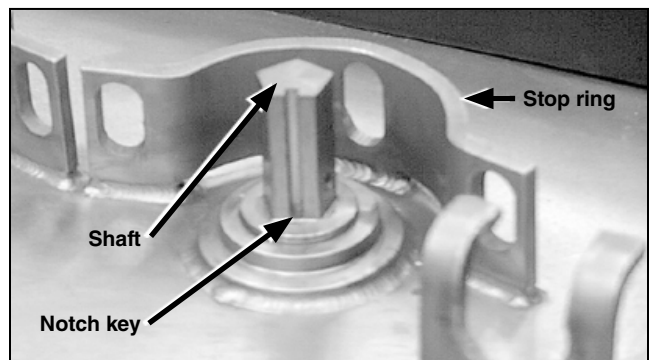

Figure 37. The shaft notch key.
**Note:** It may be necessary to manually rotate the motor operator shaft (by twisting the operating disk) to line up the operator key with the shaft notch key. See Figure 37.